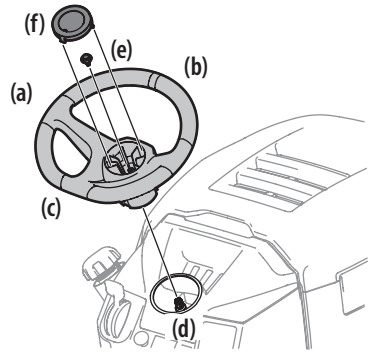

Figure 14
1. With the wheels of the tractor pointing straight forward, align the steering wheel (a) by using the center-line (b) on the front of the steering wheel (a) pointing straight ahead and the flat section (c) of the steering wheel (a) facing toward the seat, place the steering wheel (a) over the steering shaft (d). See Figure 14.
2. Secure the steering wheel (a) with the hex bolt (e) from under the steering wheel cap (f) and torque to 18-22 ft-lbs (24.4-29.8 N-m). See Figure 14.
NOTE: The hex bolt (e) securing the steering wheel (a) has thread locker applied to it, so if it is removed, it is recommended that the hex bolt (e) be replaced or thread lock re-applied. See Figure 14.